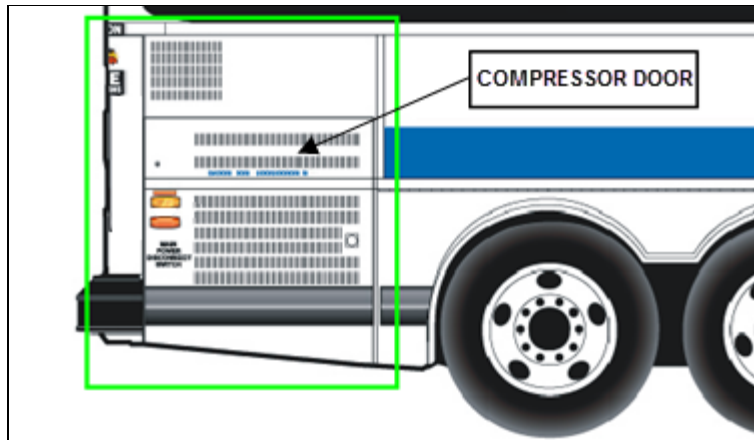

FIG.1 VEHICLE COMPRESSOR DOOR
1. Fully open the vehicle compressor door (rear, curb side of vehicle Fig.1).